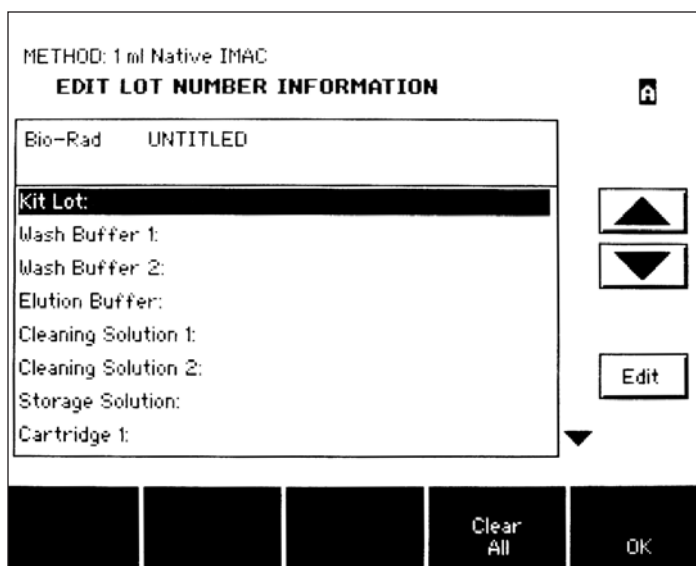

Fig. 6.9. Edit Lot Number Information screen.
2. Touch the Edit button. You will proceed to the Edit Lot Number Information screen (Figure 6.9).